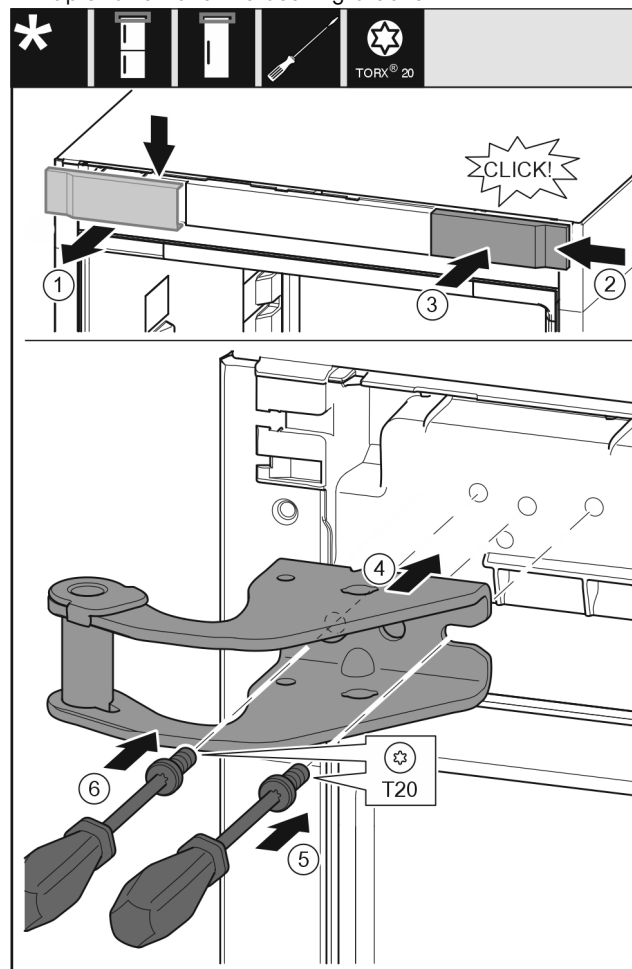

Fig. 9
- Take off the cover from above to the front. Fig. 9 (1)
- Rotate the cover 180° and clip onto the other side from the right. Fig. 9 (2)
- Latch the cover into place. Fig. 9 (3)
- Position the upper bearing bracket. Fig. 9 (4)
- Insert the screw with a T20 screwdriver and tighten it. Fig. 9 (5)
- Insert the screw with a T20 screwdriver and tighten it. Fig. 9 (6)